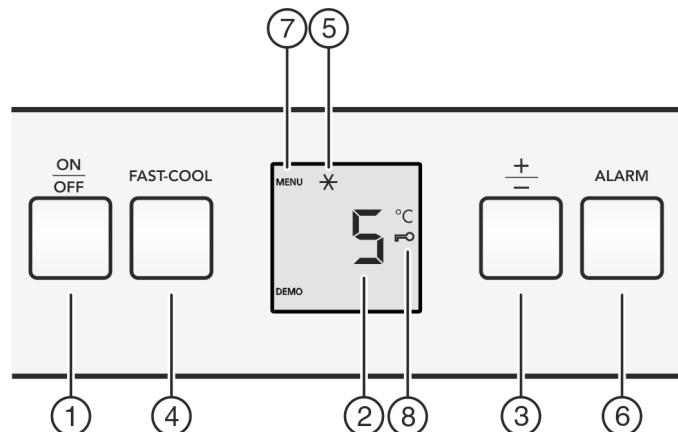

Fig. 2
- Press the On/Off button Fig. 2 (1).
- Press the Fast Cool button *Fig. 2 (4)* for approx. 5 seconds.
- The Menu symbol is shown on the display, *Fig. 2 (7)*.
- Briefly confirm using the Fast Cool button *Fig. 2 (4)*.
- The child lock symbol, *Fig. 2 (8)*, lights up on the display.
- Briefly press the On/Off button *Fig. 2 (1)*.
- Press alarm button *Fig. 2 (6)*.
- Call up the temperature function: Press the "+/-" setting button *Fig. 2 (3)*.
- Change the temperature in 1 °C steps: Press the "+/-" setting button *Fig. 2 (3)* until the required temperature is indicated in the temperature display.
- Briefly press the Fast Cool button *Fig. 2 (4)*.
- The Fast Cool symbol *Fig. 2 (5)* illuminates in the display.
- The Fast Cool symbol *Fig. 2 (5)* goes out in the display.